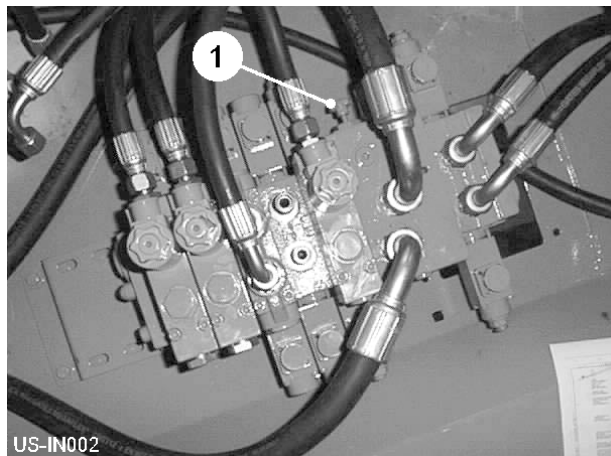

Fig 4
The main hydraulic valve bank, situated behind the rear LH guard of the machine, incorporates an adjustable screw (item 1, fig 4) which enables easy changing from closed to open centre and vice versa. For closed centre configuration tractors, turn the screw clockwise until fully closed. For open centre, turn the screw anticlockwise until fully out.